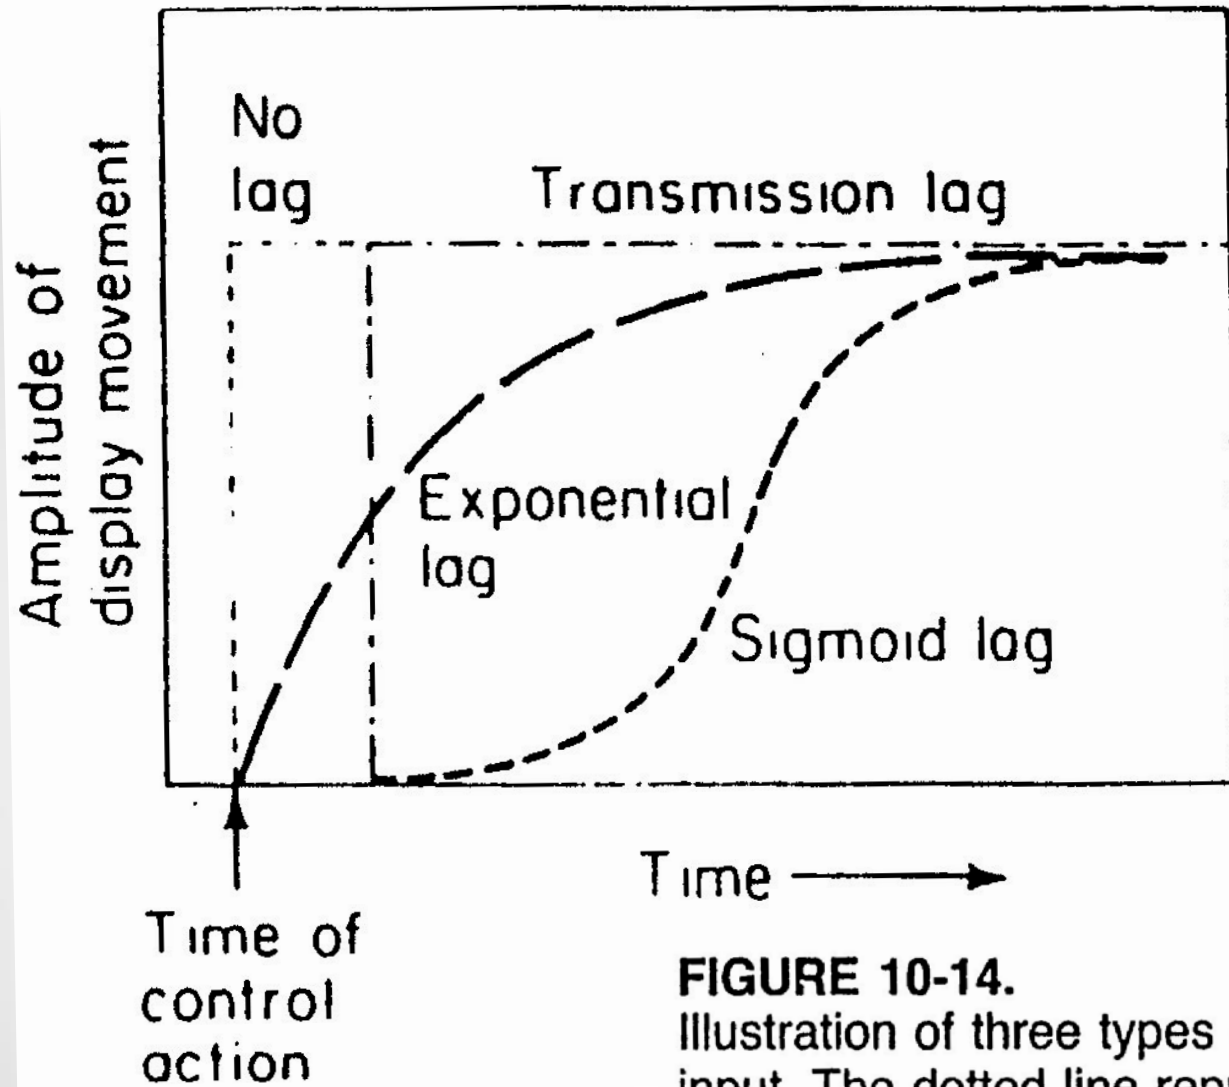

FIGURE 10-14.
- This's the major focus of time lag research (Figure 10-14: Poulton, 1974)